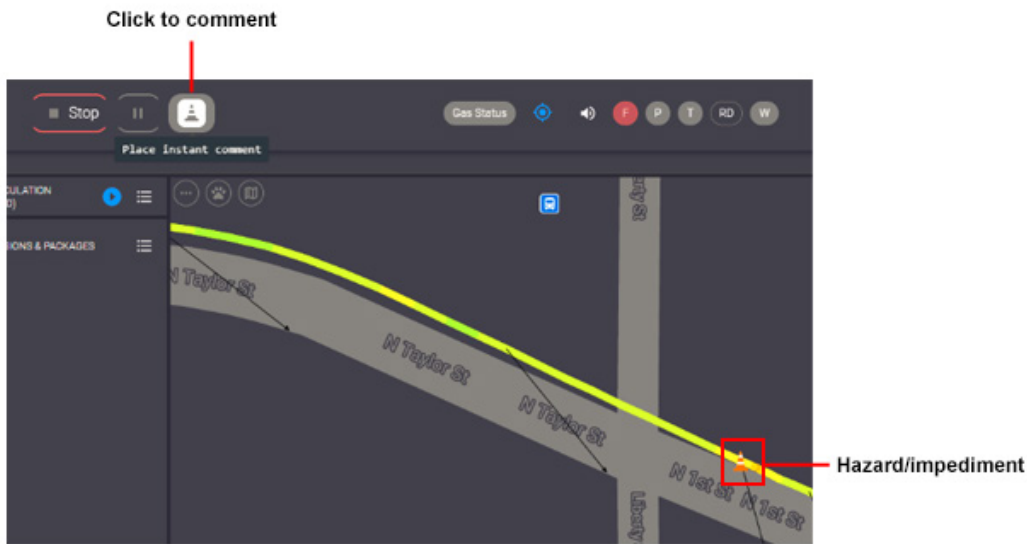

Figure 94 Cone Button
- 1 Click the **Cone** button (see Figure 94).